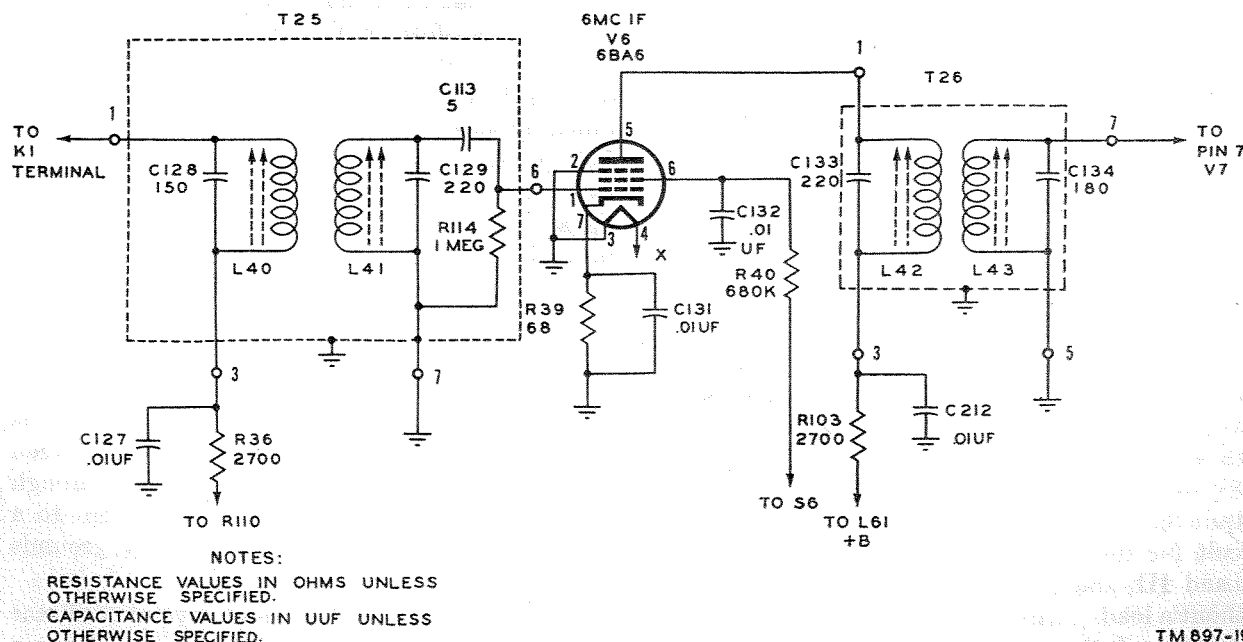

Figure 19. Radio Receiver R-274/FRR, functional diagram of 6-mc i-f stage.
a. The simplified diagram showing the 6-mc i-f amplifier which uses a type 6BA6 pentode tube amplifier V6 is shown in figure 19. Note that the input to this stage comes from the contacts of relay K1 (fig. 43), and that there is an input only when the proper contacts are closed, which occurs on BANDS IV, V, and VI.
b. The 6-mc i-f signal developed across the primary of transformer T26 (fig. 19) is inductively coupled to the secondary. The secondary is resonated to 6 mc by capacitor C134, and is tuned by means of a powdered-iron core inside the coil (L43). The 6-mc signal is fed from the secondary of transformer T26 directly into the signal injection grid of the 2d mixer tube (V7) through a coaxial cable. The purpose of the shield is to prevent any other signals from being picked up and fed into this grid.